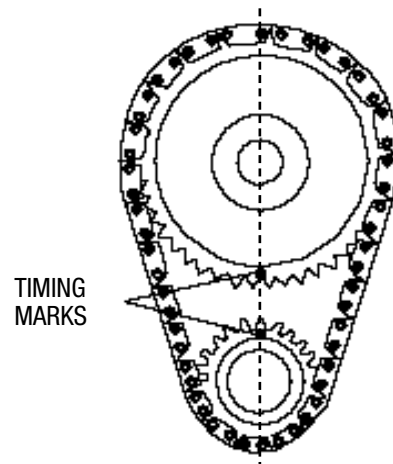

Figure 2- Timing Chain Sprocket Alignment
13. Rotate engine until timing marks are aligned as shown in Figure 2.
CAUTION: Use Edelbrock Performer-Plus True Rolling Timing Chain and Gear Set #7812. Do not use late model timing chain & gear sets that are designed in a retarded position and are not recommended for this camshaft installation. Edelbrock Timing Sets feature three keyways for specific timing selection. Use locking compound material on the bolt threads holding timing gear to cam. Torque to factory recommendations specified in motor repair manual. Install camshaft with timing marks lined up as recommended by factory specifications. See Figure 2.
After the cam is installed and timed correctly (see Figure 2), it will be necessary to check each pushrod for correct lifter preload.